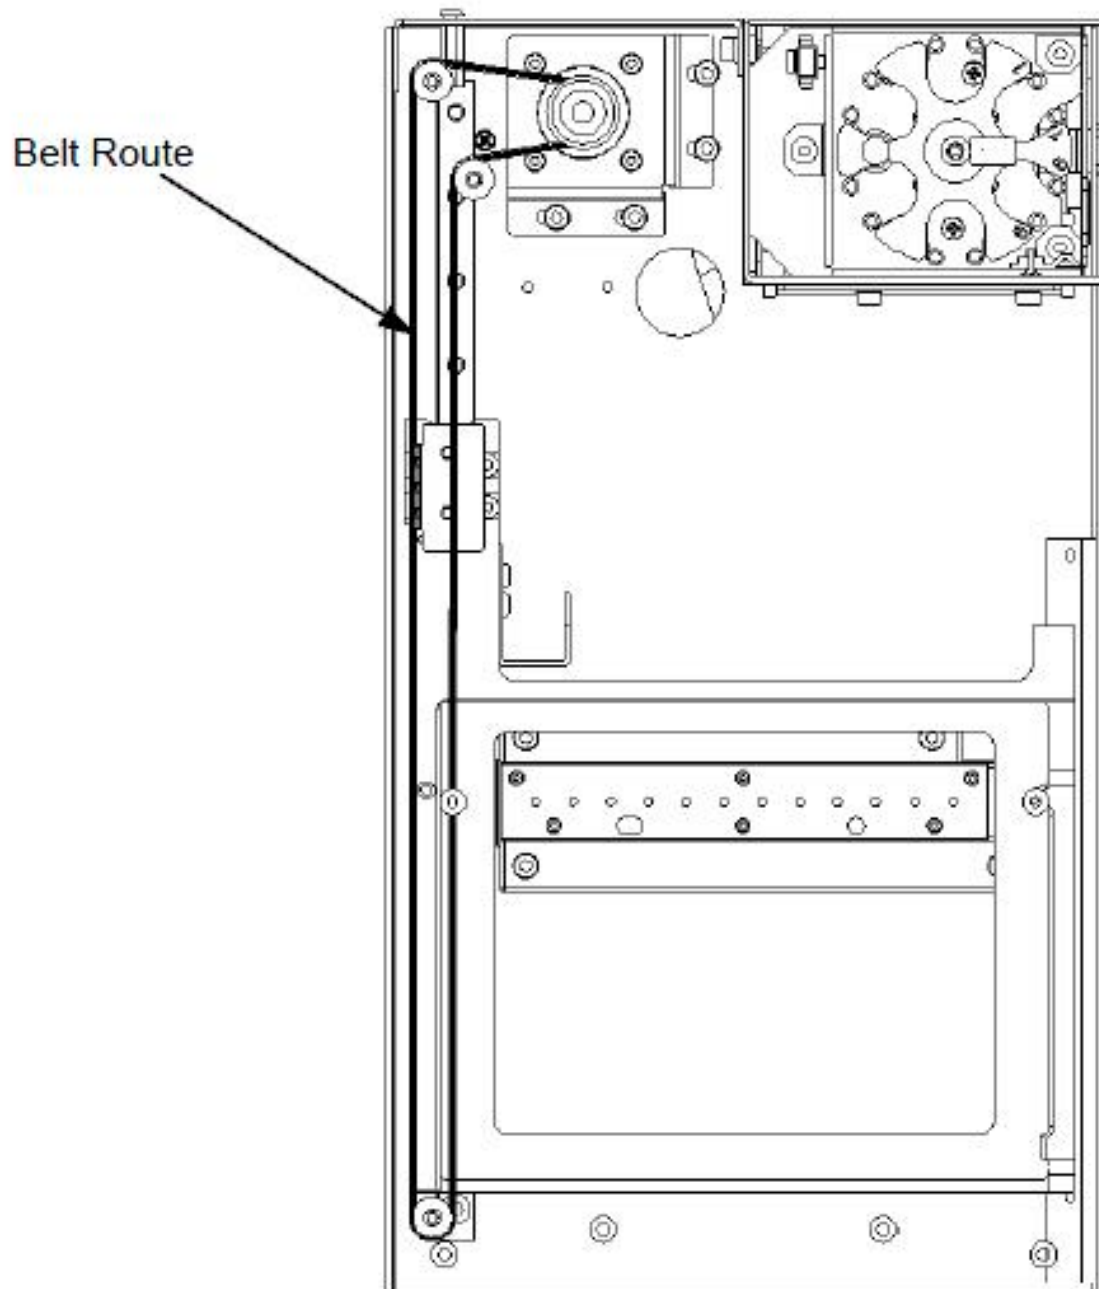
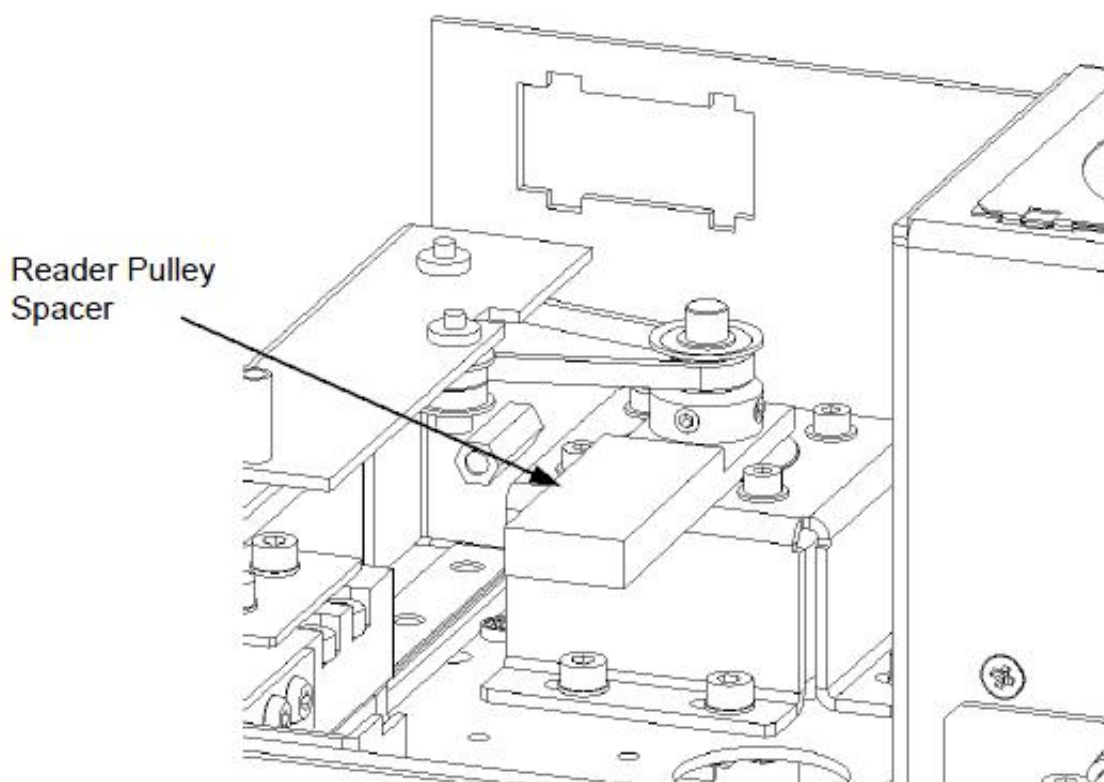

Figure N-19: Routing the Belt
Figure N-20: Reader Spacer Pulley
3. Discard the Set Screws that come with the Reader Pulley. Route the belt as shown in Figure N-19 and slide the Motor Pulley over the Motor shaft. Set the height of the pulley from the motor using the Reader Pulley Spacer (Figure N-20) and secure the pulley using two M3x4 Cone Point Set Screws and Loctite 222.
1. Cut a 636mm length of belt material. Rout the belt around the system as shown in Figure N-19.